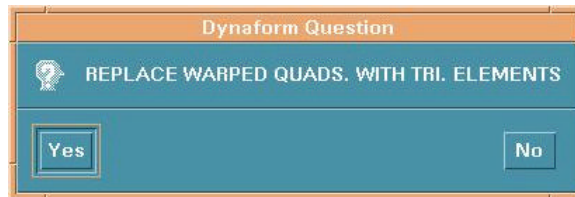

Figure 6.6.7 Replace Warpage Question
2. If there are any failed elements, a DYNAFORM Question appears. See Figure 6.6.7.